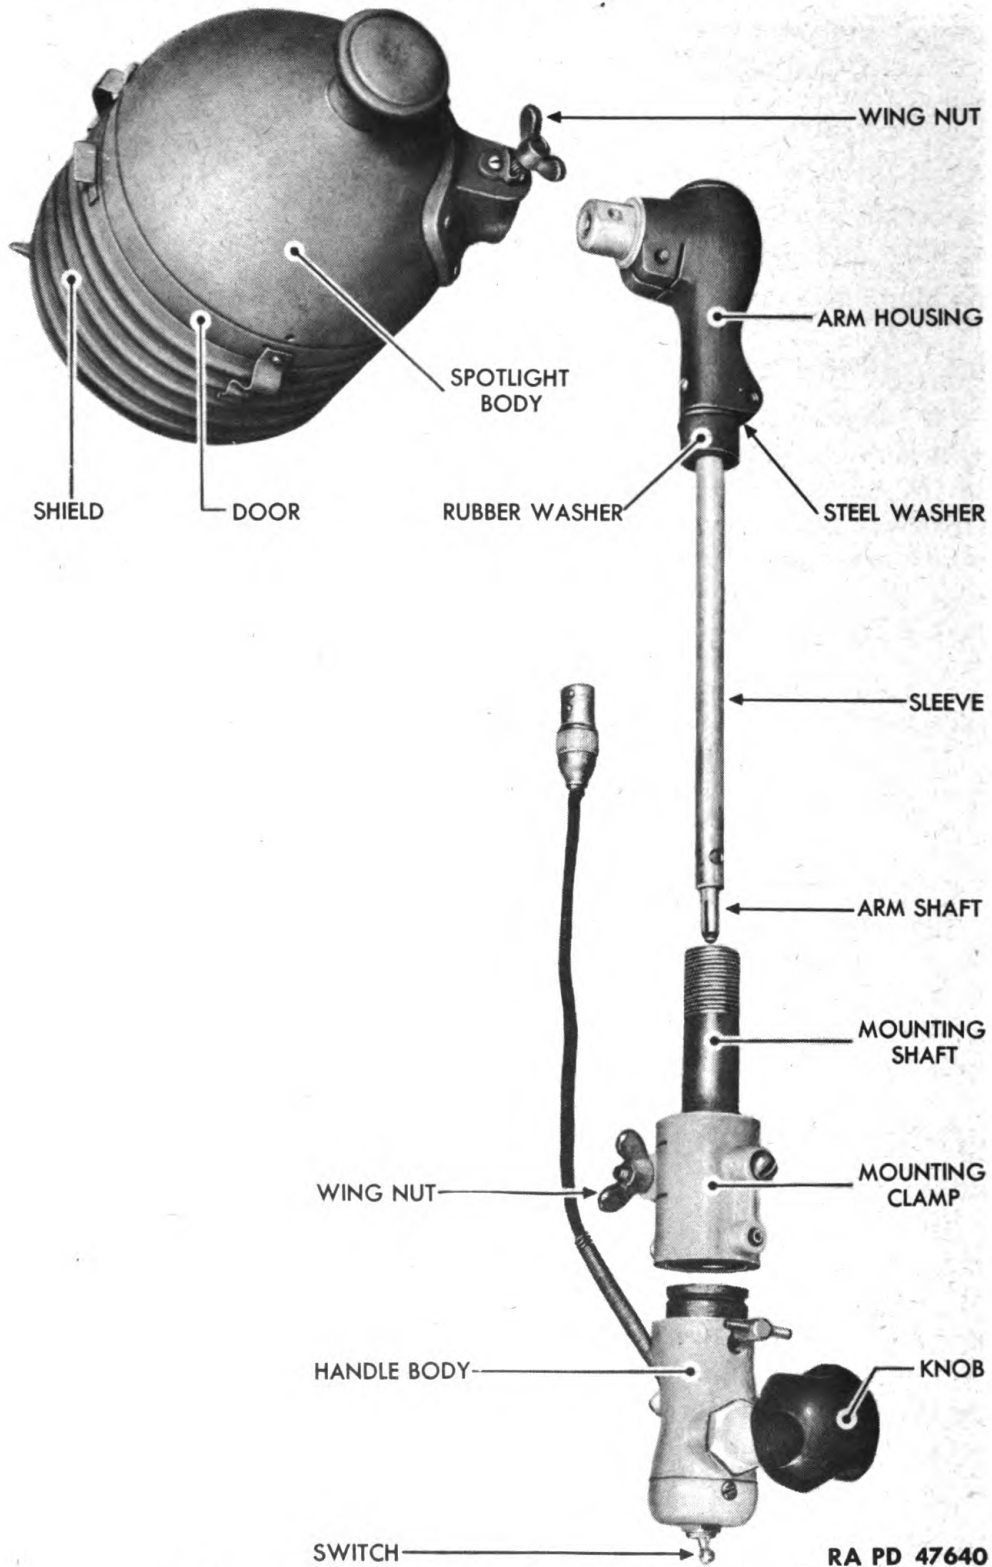

Figure 66 — Spotlight — Partly Disassembled
a. **Disassembly** (figs. 66 and 67).
c. **Assembly** (figs. 66, 67, and 68).
a. Disassembly (figs. 66, 67, and 68).
c. Assembly (figs. 66, 67, and 68).